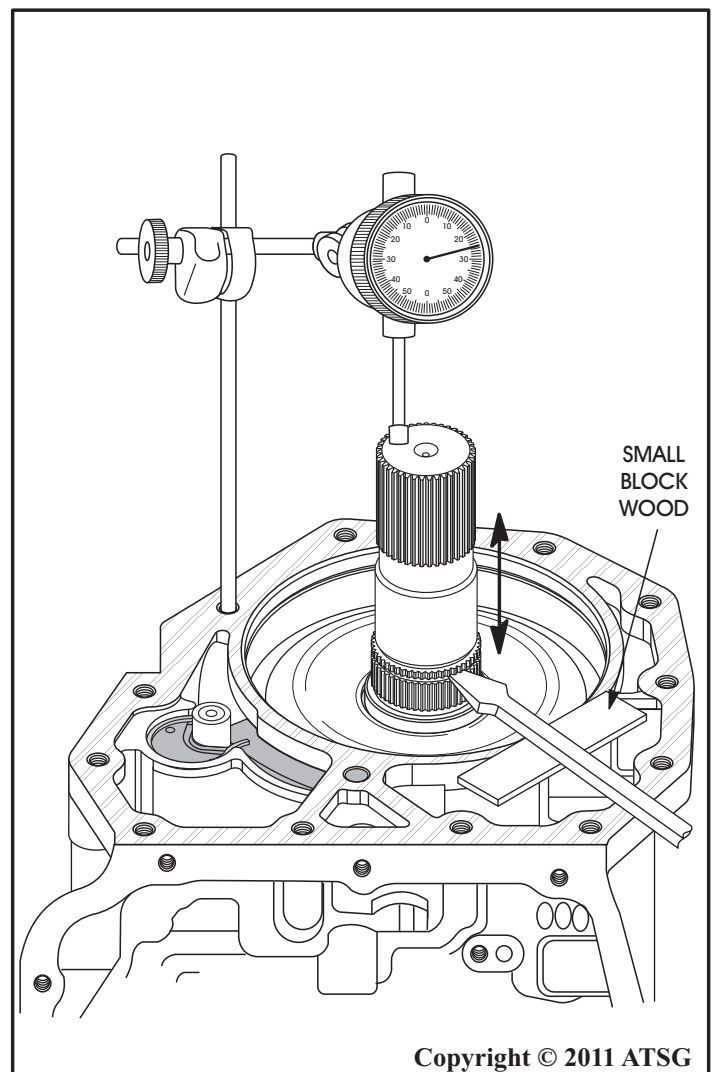

Figure 38
11. Using a dial indicator, measure and record the output shaft end-play reading, as shown in Figure 38, to use as a reference for re-assembly.
**Note: Use screwdriver and small wood block to move gear train up and down, as shown in Figure 38.**